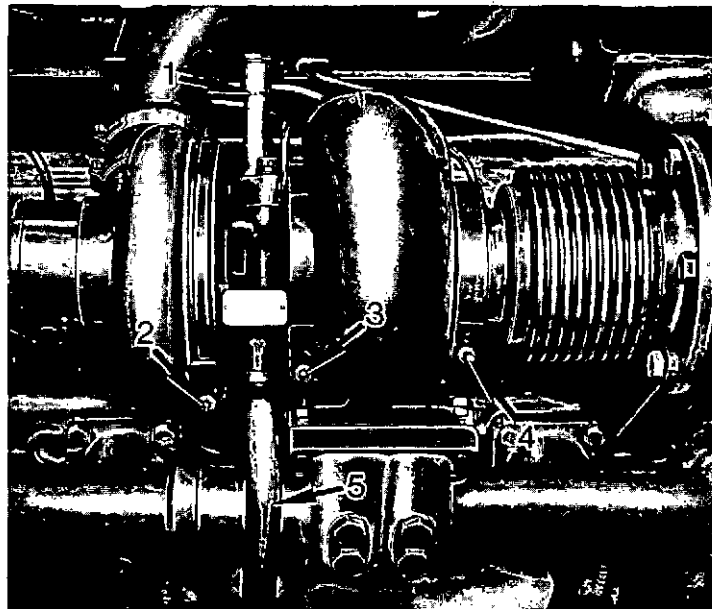

Fig. 2. Turbocharger
9. Prime the turbochargers (fig. 2) with clean engine lubricating oil. (See Chapter 3, Section 6 for details).